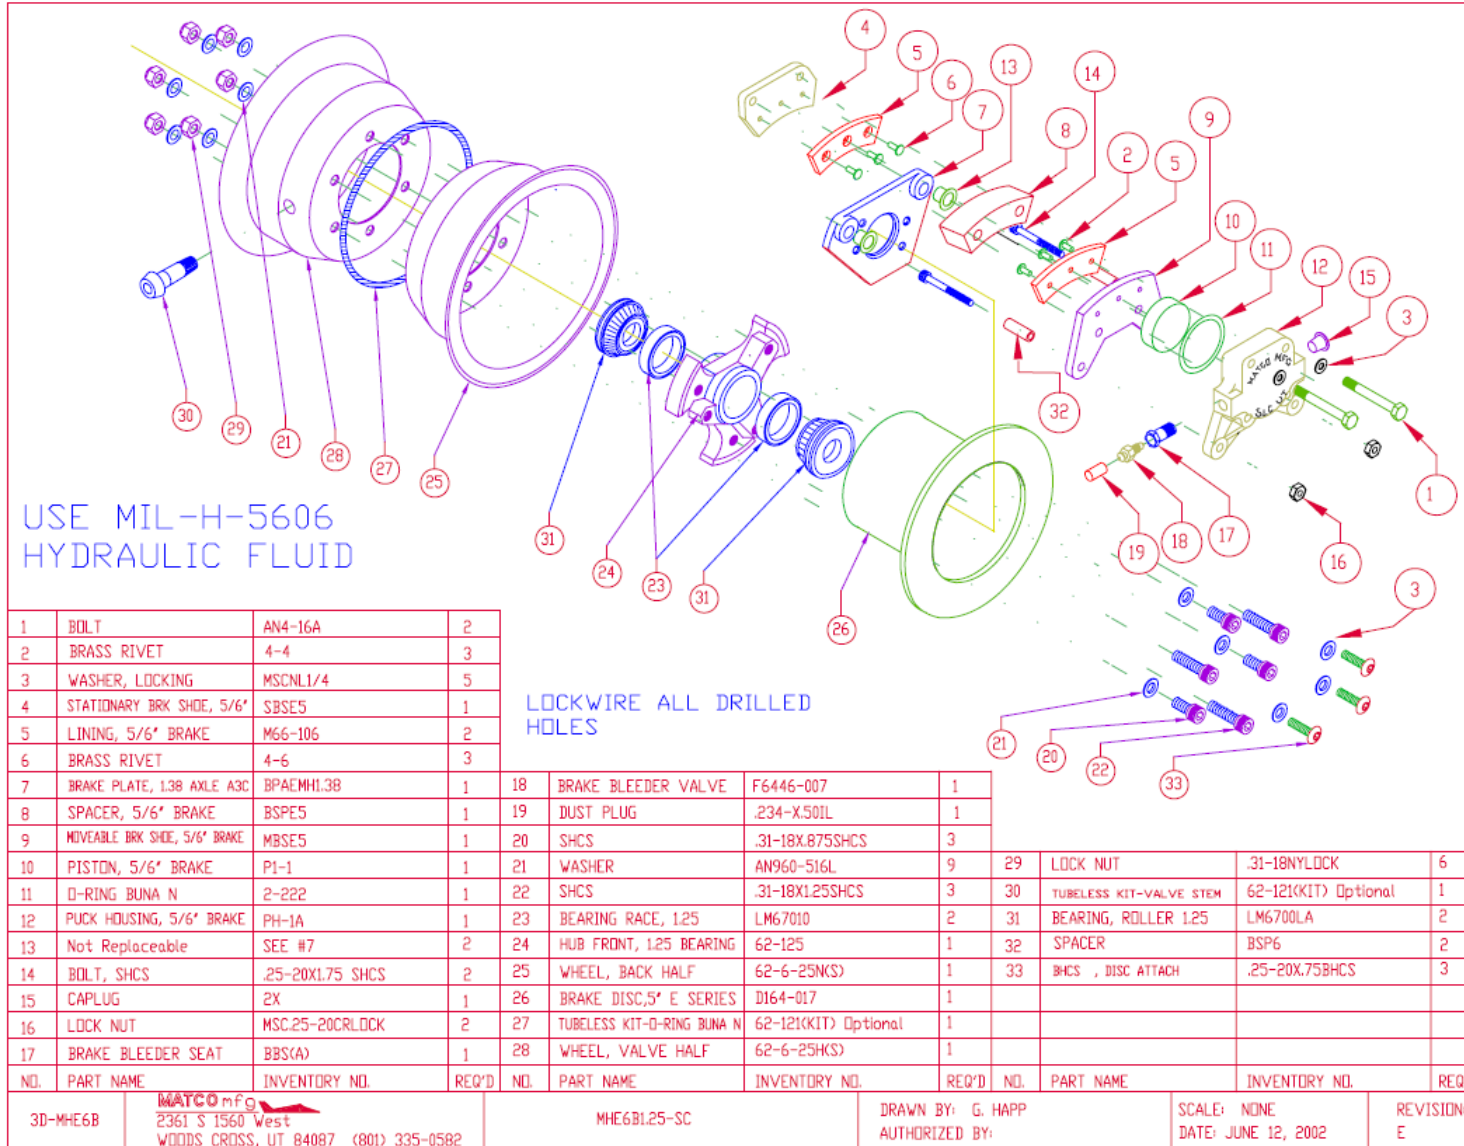

Figure 2.4.1.1: MATCO Wheel hub & calliper assembly drawing
4. Disassemble the wheel hub with calliper assembly and axle and separate the two halves of the hub with reference to figure 2.4.1.1 below. Please note that this drawing is the property of Matco MFG and is subject to change. The latest version of this drawing can be found on the manufacturer's website.
7. Reassemble the remainder of the hub with reference to figure 2.4.1.1 above, taking note that the tubeless kit valve stem and tubeless kit O-ring shown in item 30 and 27 respectively are not required for this assembly.
3. Disassemble the wheel hub with calliper assembly and axle and separate the two halves of the hub with reference to figure 2.4.1.1 below. Please note that this drawing is the property of Matco MFG and is subject to change. The latest version of this drawing can be found on the manufacturer's website.